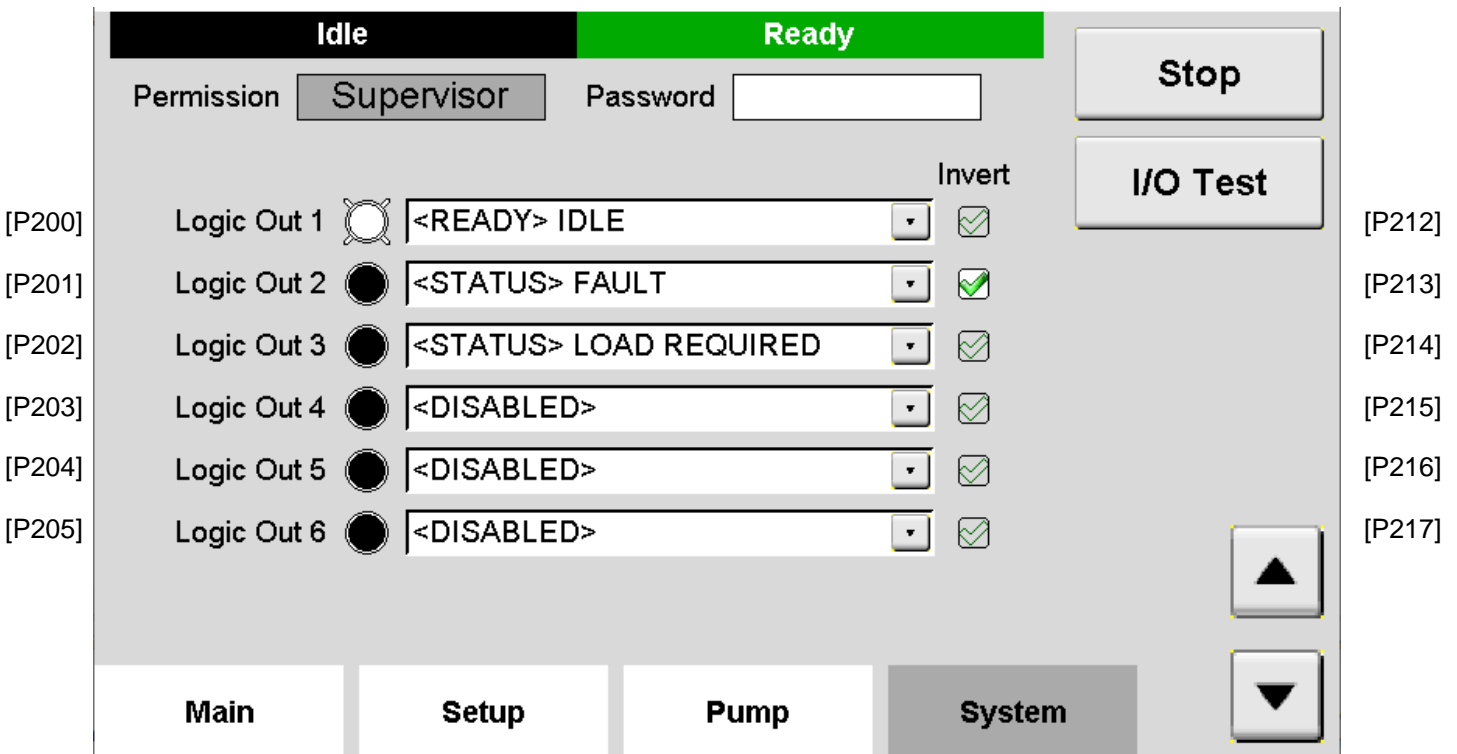

Figure 3.10 Logic Out Screen
3.2.5.9 Logic Out Screen (Figure 3.10)